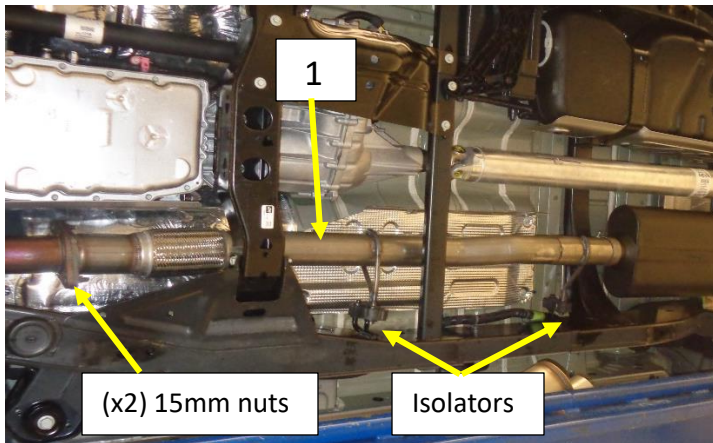

Figure 2
3. Install the Flowmaster Muffler inlet pipe **(1)** into the vehicle and on to the studs at the catalytic converter 2-bolt flange. **Fig.2**
4. Install the hanger rods into the isolators. **Fig.2**
5. Install the (x2) 15mm nuts on to the studs at the 2-bolt flange. **Fig.2**